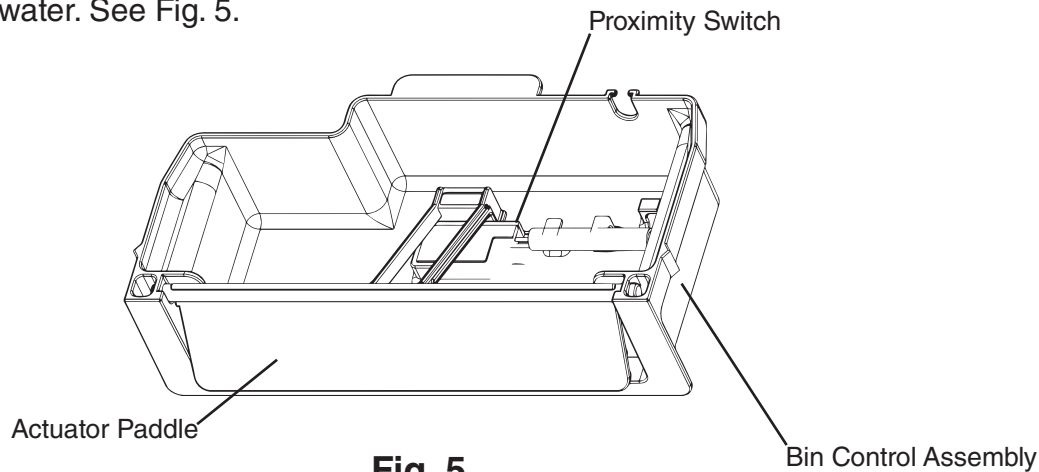

Fig. 5
- 6) Wipe down the switch mount and actuator paddle with 1 part of Hoshizaki "Scale Away" and 25 Parts warm water. Rinse the switch mount and actuator paddle thoroughly with clean water. See Fig. 5.